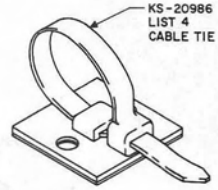
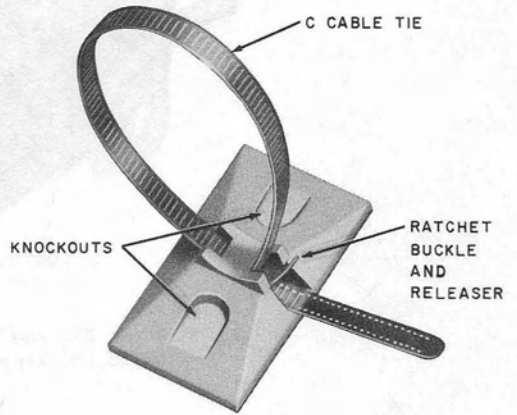

Fig. 5—E Adhesive Cable Tie
Fig. 6—B (MD) Adhesive Cable Tie
7.02 **Adhesive cable ties** are intended for use where mounting by adhesion may be desirable or the only acceptable means. The E adhesive cable tie (Fig. 5) replaces both the B adhesive cable tie (Fig. 6) and the C adhesive cable tie.